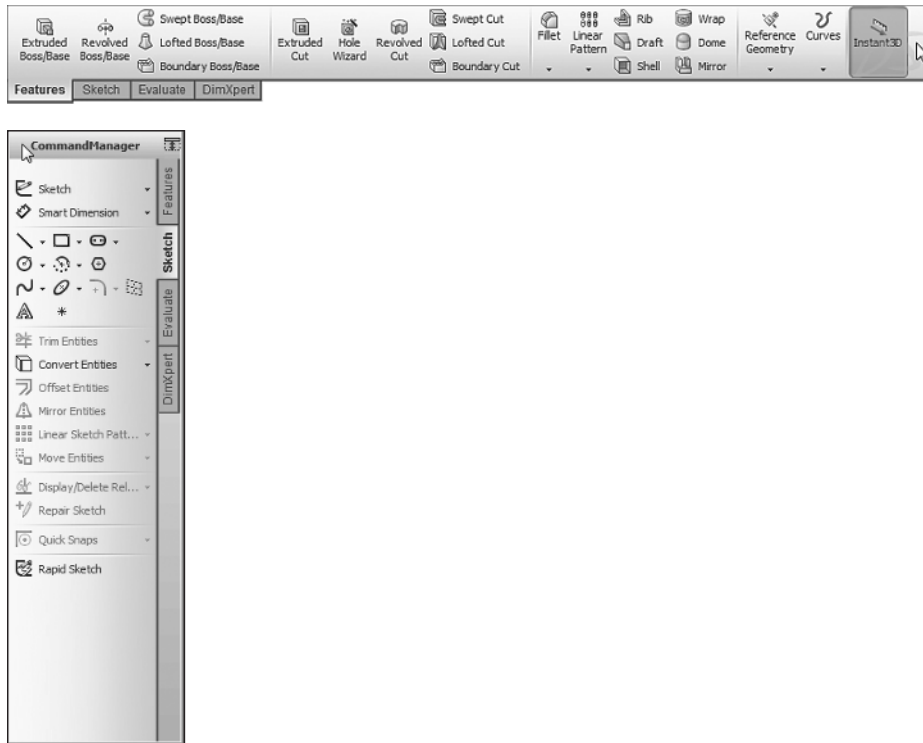

FIGURE 1.20 Floating and docking the CommandManager
1. With the mouse, select the CommandManager with the left mouse button where no tool is present and drag the CommandManager from its original location down to the graphics area (See Figure 1.20).